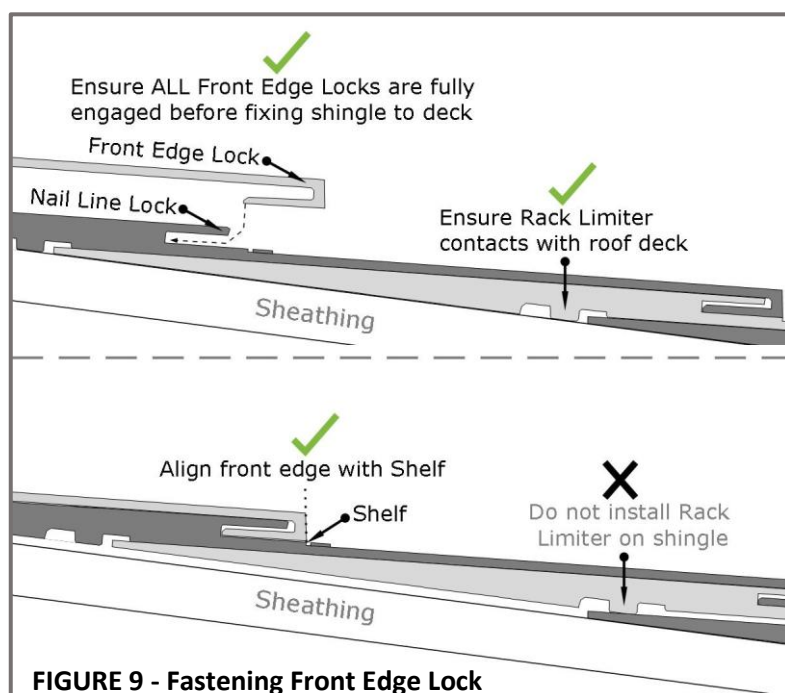

FIGURE 9 - Fastening Front Edge Lock
- The front edge of F-WAVE® REVIA® XTM Roofing Shingles must be mechanically locked in place to provide strong wind uplift resistance. See **Figure 9**.